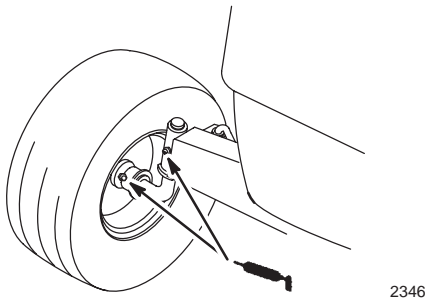

Figure 22
1. Lubricate the front wheels and steering spindles until grease begins to ooze out of the bearings (Fig. 22).